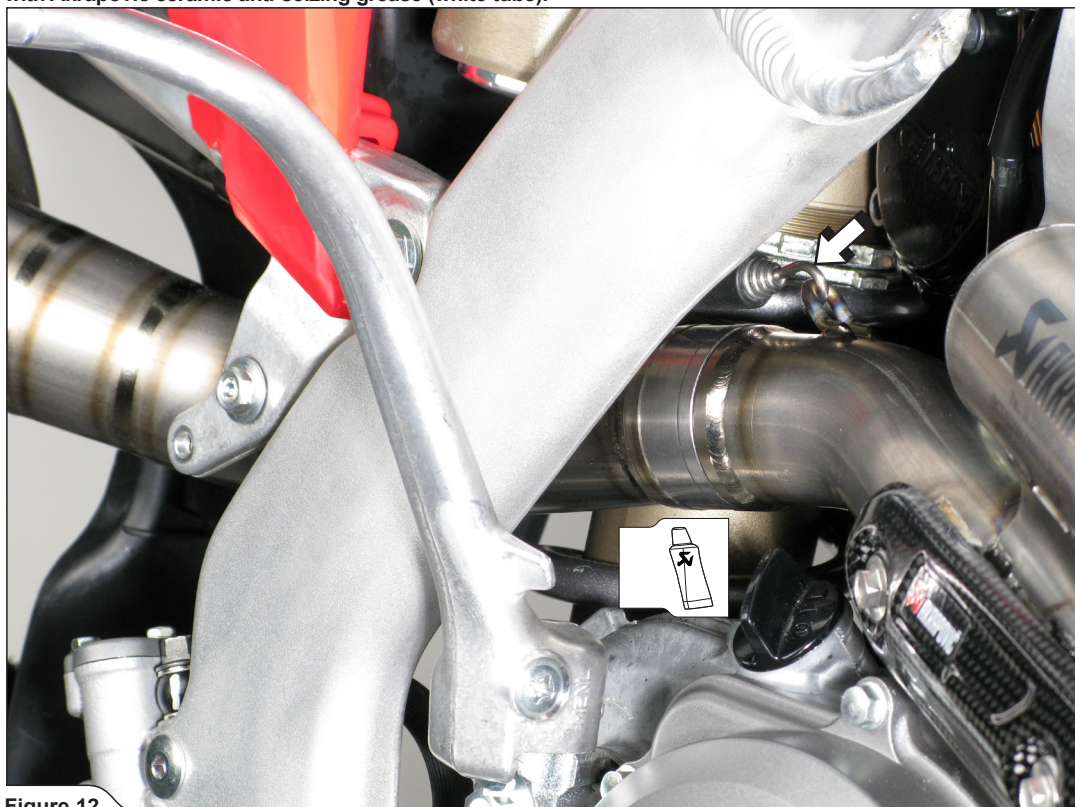

Figure 12
6. Position the muffler correctly and slide it onto the outlet side of the header pipe and attach the spring (Figure 12).